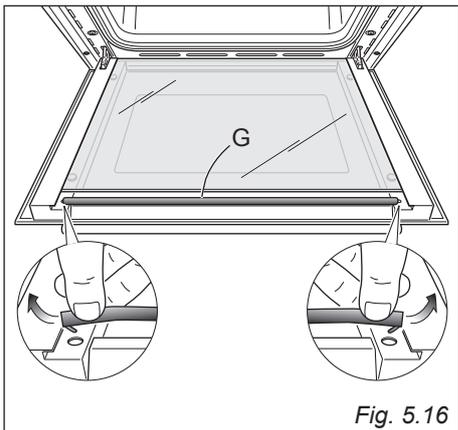

Fig. 5.16
- Remove the seal "G" by unhooking the no. 2 fixing hooks (fig. 5.16).